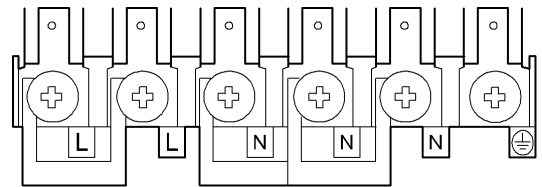

Fig.5.
- Make connection as shown in Fig 5 by proceeding as follows:-
- Clamp bare wires into the relevant terminal (Fig. 5.) and check they are held by tugging each one in turn.
ENSURE THAT THE LINKS ARE FITTED AS SHOWN IN FIG.5.